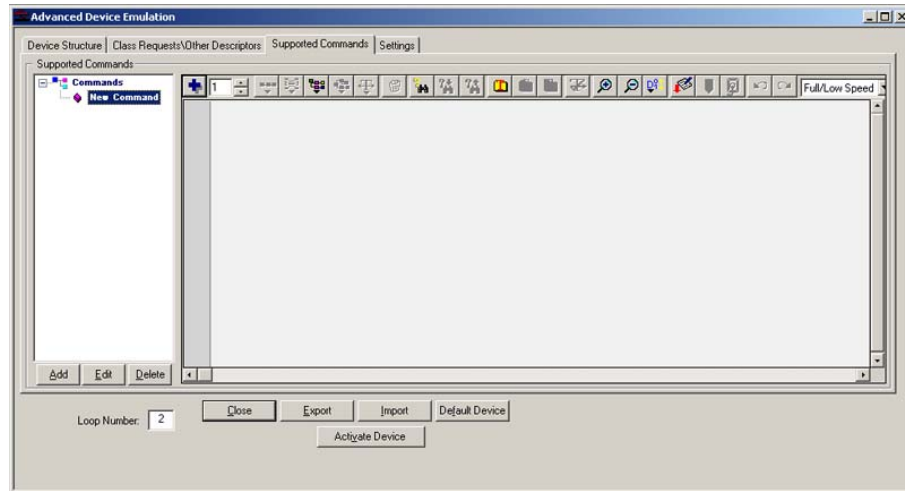

Figure 105 Supported Commands Entry Dialog
1. Click the **Supported Commands** tab to open the Supported Commands Entry dialog, as shown in Figure 105.